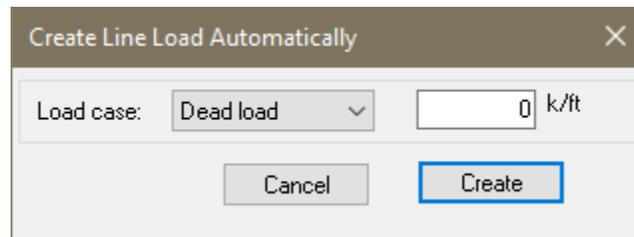

Figure 4-6
- Go to *Loading* → *General* and click on the *Line Load Wizard*  icon. This should open the *Create Line Load Automatically* dialog window shown in **FIGURE 4-6**.